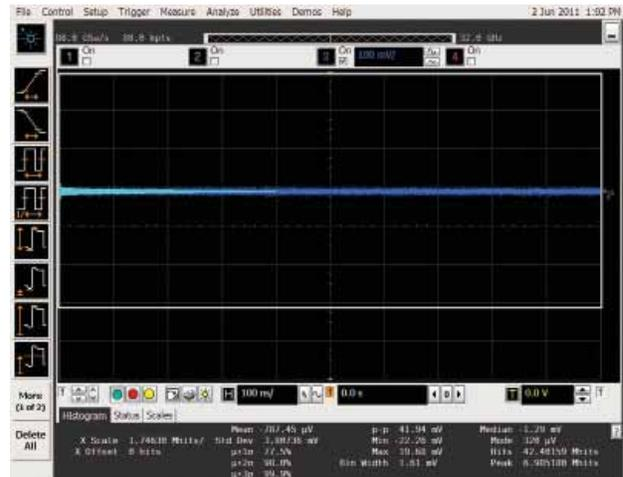

Figure 4. The offset can be changed by adjusting the signal up one division
10. Change the offset by moving the signal up one division on the screen, as shown in Figure 4.